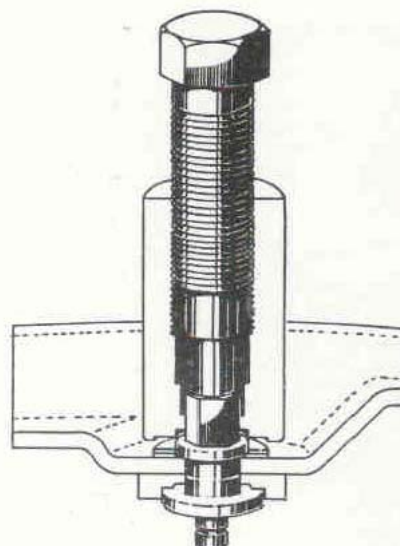

Fig. 25. Removing the tool.
4. Screw in the bolt and pull the tool off the pin, see Fig. 25.